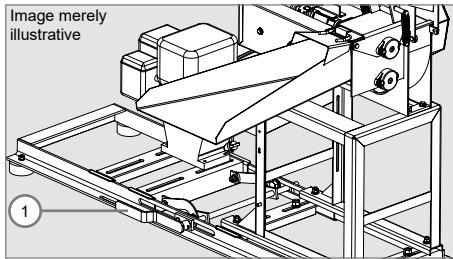

Figure 8
- ✓ In the relief position, turn on the engine and after the electric or gas engine reaches max rotation, push the belt tensioning lever (1) in the direction indicated by Figure 8.